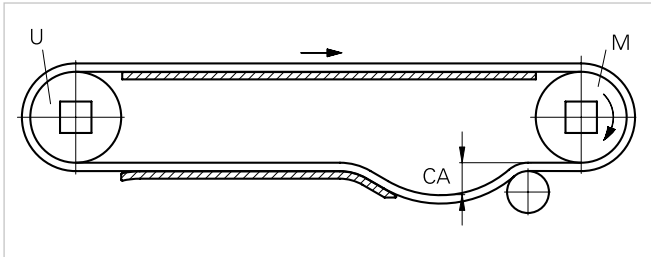

Figure 120
- **Uni-directional drive (Fig. 120)**